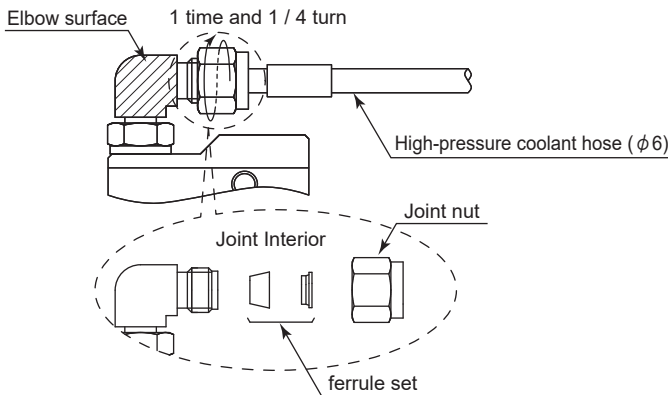

Fig. 16
- (2) Fit an adjustable wrench on the elbow surface (shaded area) of the high-pressure coolant fitting to hold it in place, and use another adjustable wrench to tighten the joint nut 1 - 1/4 turns. (Fig. 16)